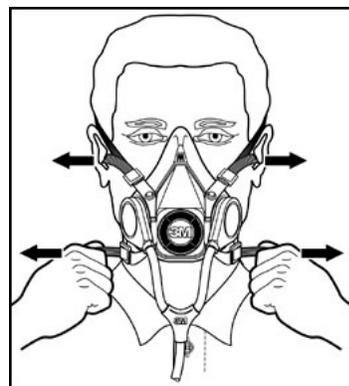

Fig. 22
5. Pull the ends of the head harness and bottom straps to adjust the tightness. (Fig. 22) **DO NOT** over tighten (Strap tension may be decreased by pushing out on backside of buckles). Perform a user seal check as described in the “User Seal Check” section, before each use.